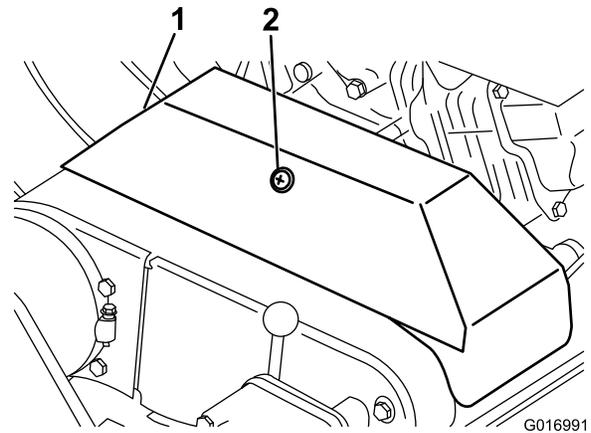

Figure 43
2. Loosen the retainer securing the V-belt cover and pivot the cover open (Figure 43).